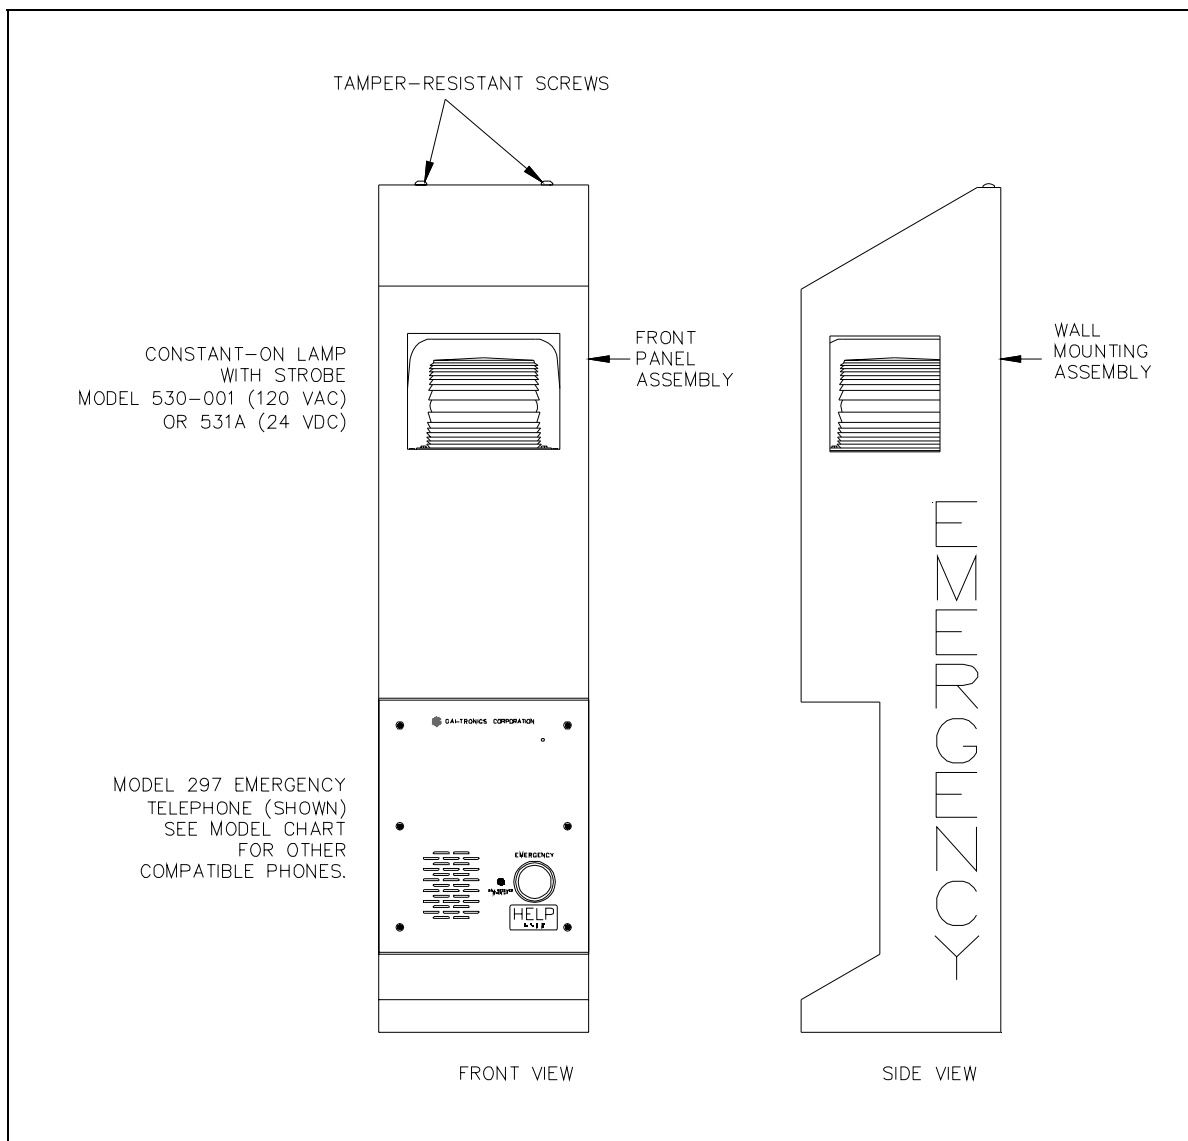
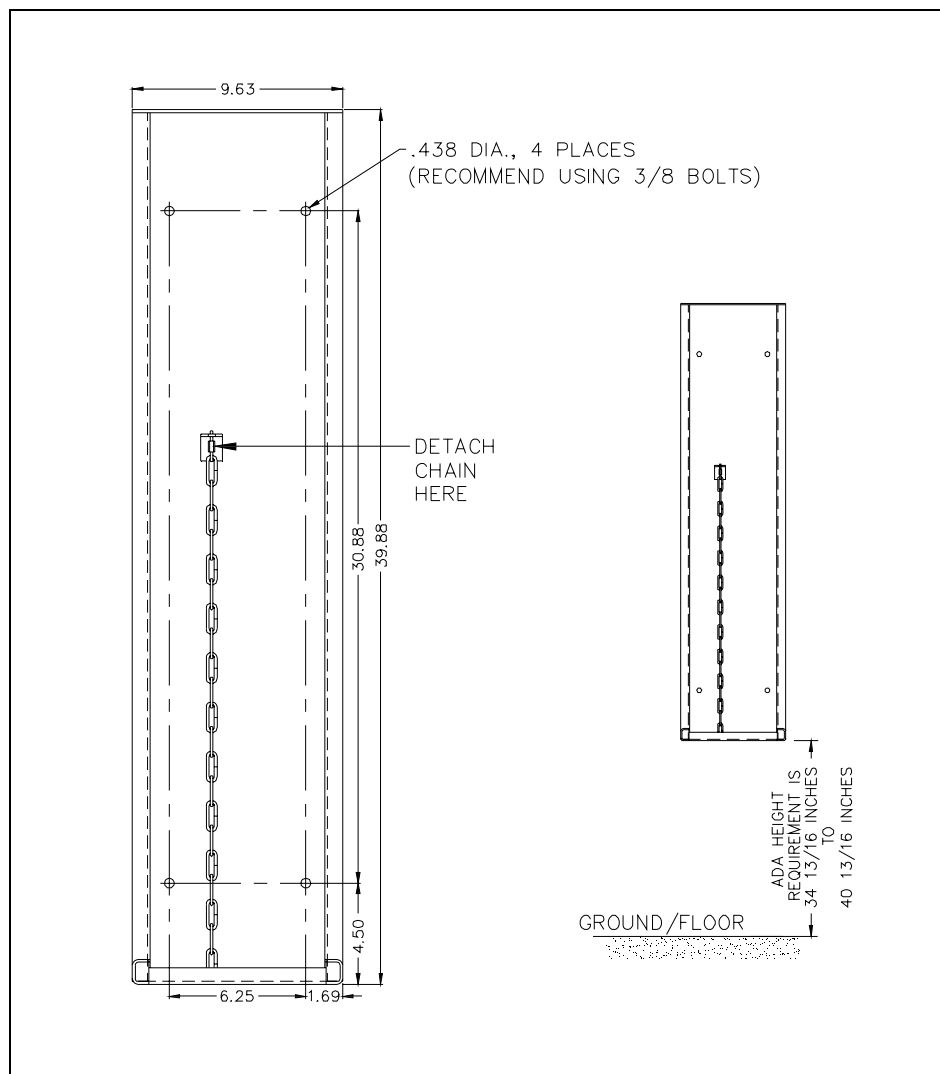

Figure 1. Model 234WM Wall-Mount Stanchion Assembly
Figure 2. Wall Mounting Instructions
1. Remove and save the two tamper-resistant screws at the top of the stanchion. See Figure 1.
2. Remove the wall-mounting assembly from the front panel assembly. Refer to Figure 1. Detach the chain from the wall-mounting assembly. See Figure 2.
4. Fasten the wall-mounting assembly to a wall or flat surface that can support at least 50 pounds, using 3/8-inch bolts. Refer to Figure 2 for mounting hole dimensions and ADA height requirements.